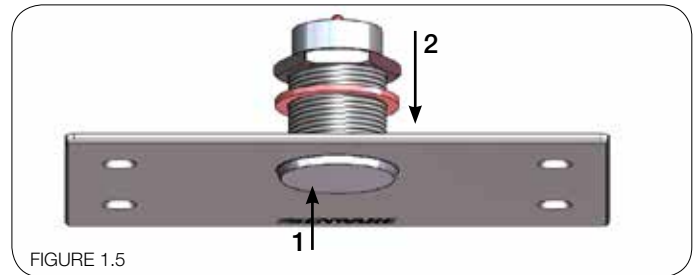

FIGURE 1.5
9. Fit the piezo button to the stainless steel cover plate. Ensure red fibre washer is used. Take note of the half flush tag and full flush tag at the back of the piezo. (FIGURE 1.5)